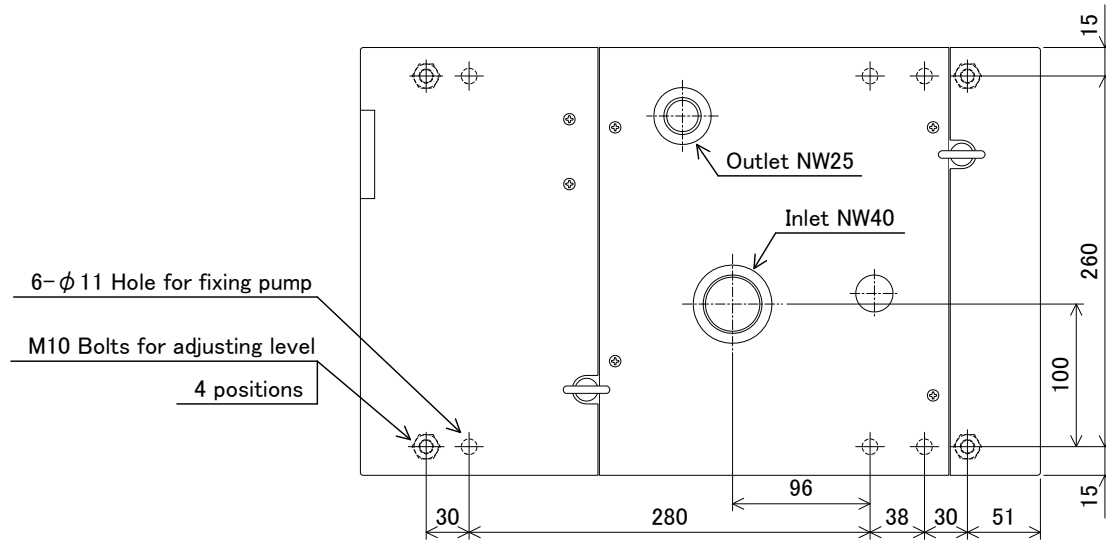
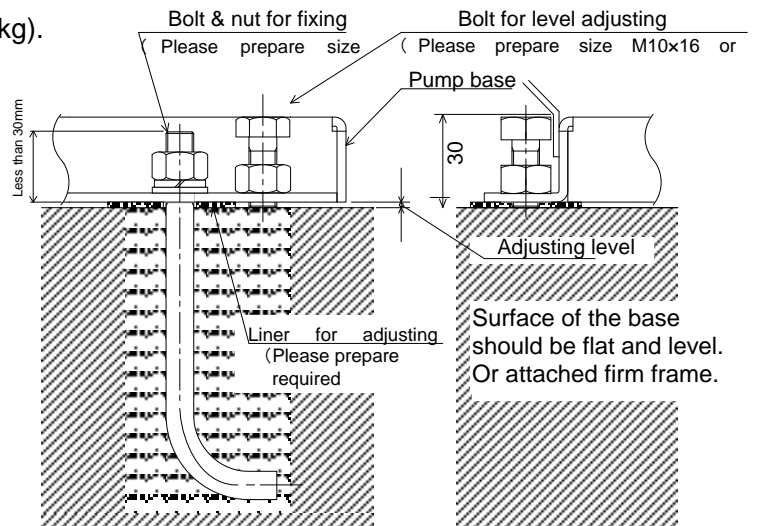

Fig.4.1 Fixing Position of the pump
Fig.4.2 How to Fix the pump
*Please fix and level the pump on the base (Fig.4.1, Fig.4.2)